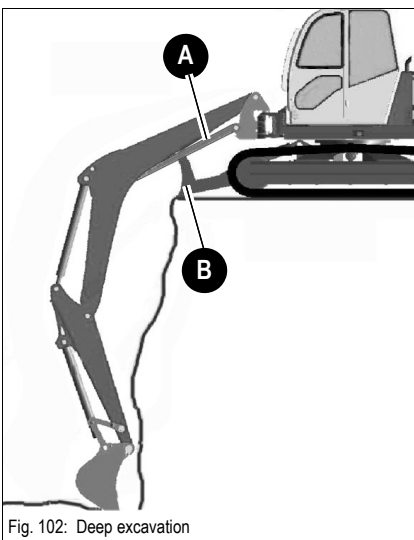

Fig. 102: Deep excavation
- ☞ If you carry out deep excavations with stabiliser blade **B** at the front, make sure piston rod **A** does not touch or rest on stabiliser blade **B** (Fig. 102).